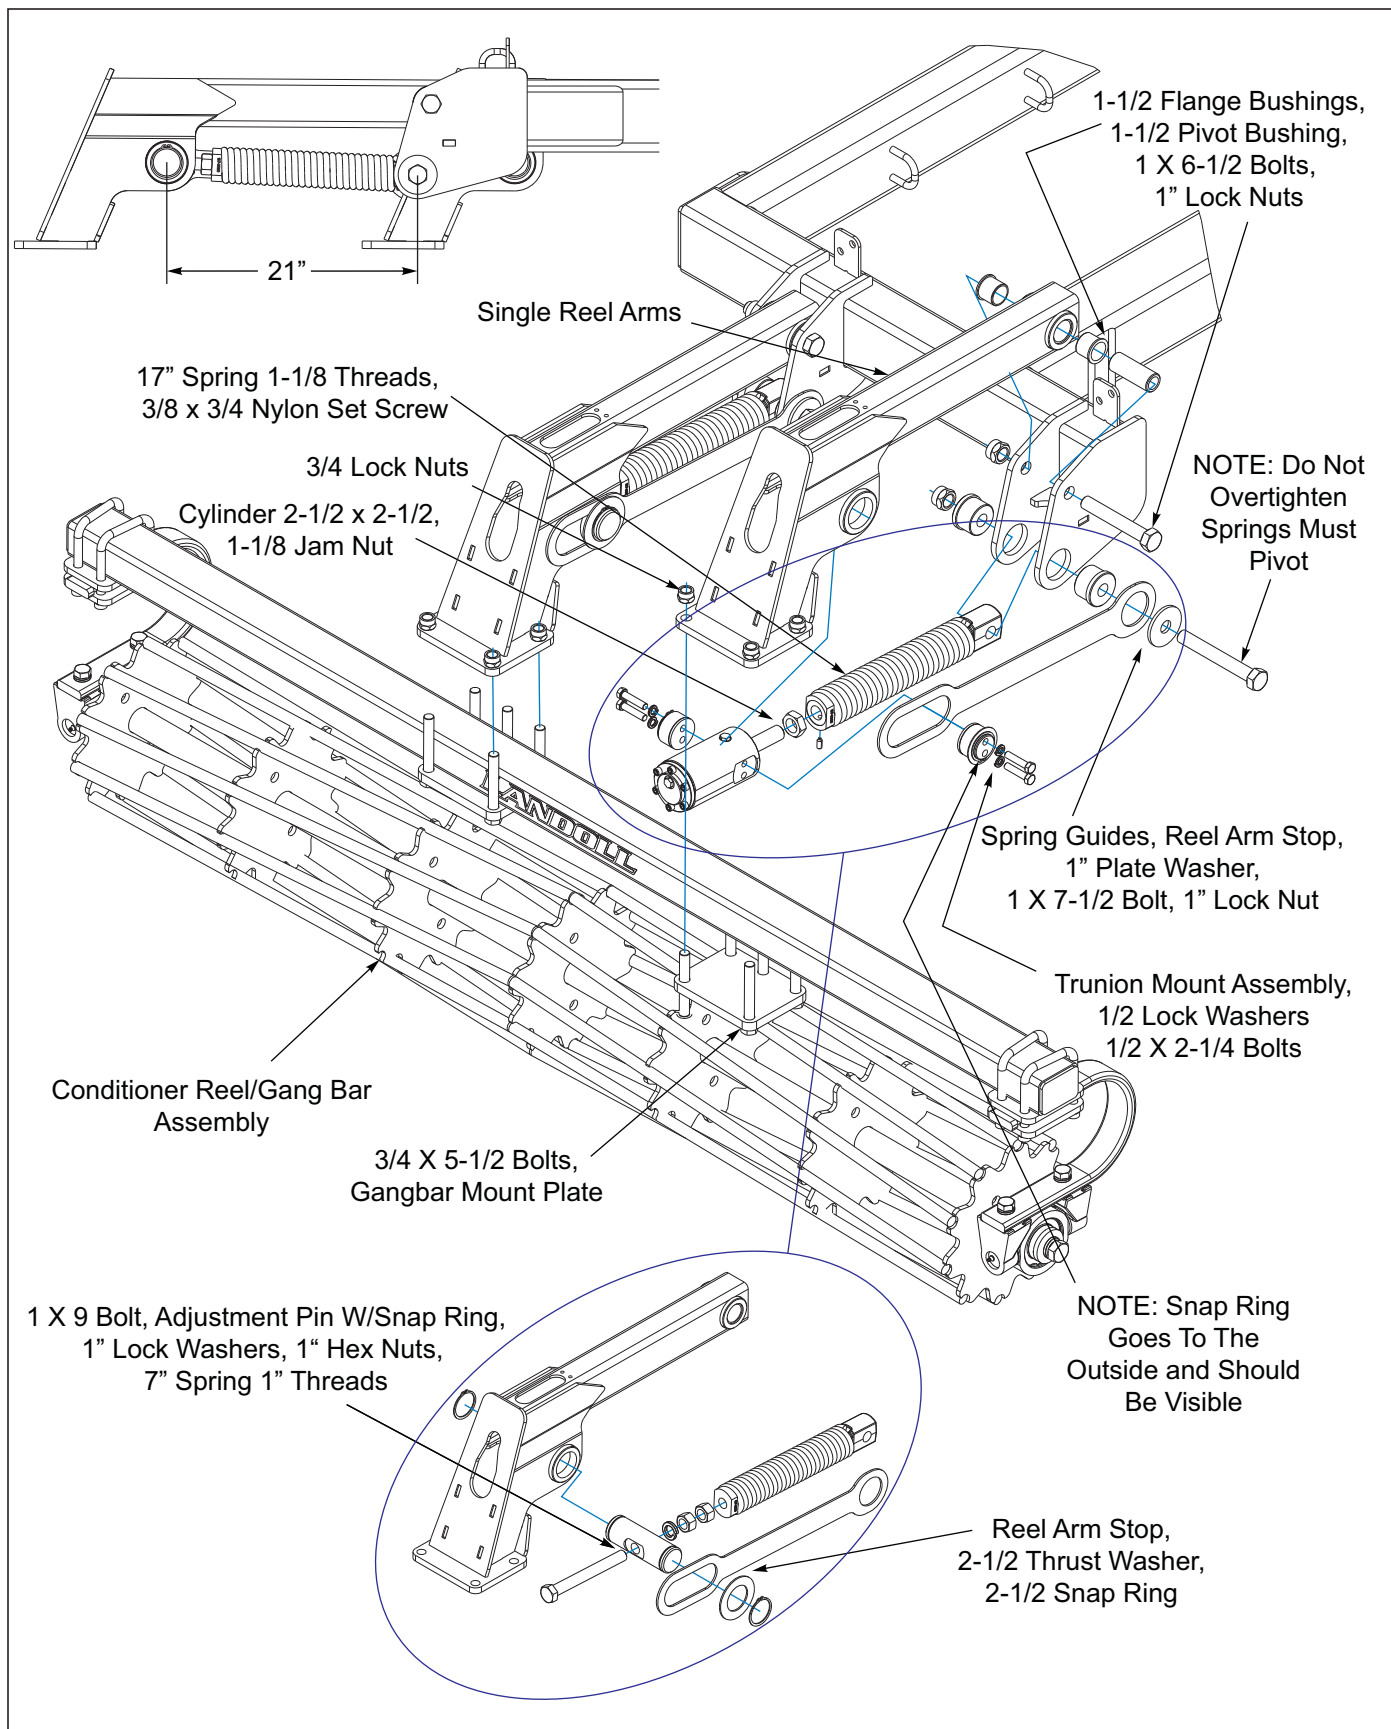

Figure 3-58: Conditioner Single Reel Installation 7531-23'-35'
1. **For Standard Reel Option, *See Figure 3-58*.** Slide the adjustment pin through the rear of single reel arm. Center frame secure with (2) 2-1/2 snap rings, Wings slide slotted hole end of reel arm stop over outer side of LT/RT wings, 2-1/2 thrust washer and 2-1/2 snap ring, both sides.
2. Assemble the 1 x 9 bolt through adjustment pin, 1" lock washer, (2) 1" hex nuts, and 17" spring (1" threads) assembly.
6. Set pin centers to 21" dimension as shown *See Figure 3-58*.
7. **For hydraulic reel option *See Figure 3-58*.** Attach the cylinder 2-1/2 x 2-1/2, 1-1/8 jam nut, and 17" spring (1-1/8" threads) to rear of single reel arm. Center frame secure with trunnion mount assembly, 1/2 lock washers, 1/2 x 2-1/4 bolts, both sides. Wings slide slotted hole end of reel arm stop over outer side of LT/RT wings, trunnion mount assembly, 1/2 lock washers, 1/2 x 2-1/4 bolts, both sides.
11. Set pin centers to 21" dimension as shown *See Figure 3-58*.
12. Attach conditioner reel/gang bar assembly to reel arms using gang bar mount plate, 3/4 x 5-1/2 bolts and 3/4 lock nuts as shown in *See Figure 3-58*. Refer to *See Figure 2-6* through *See Figure 2-15* for conditioner reel gang bar placement locations.